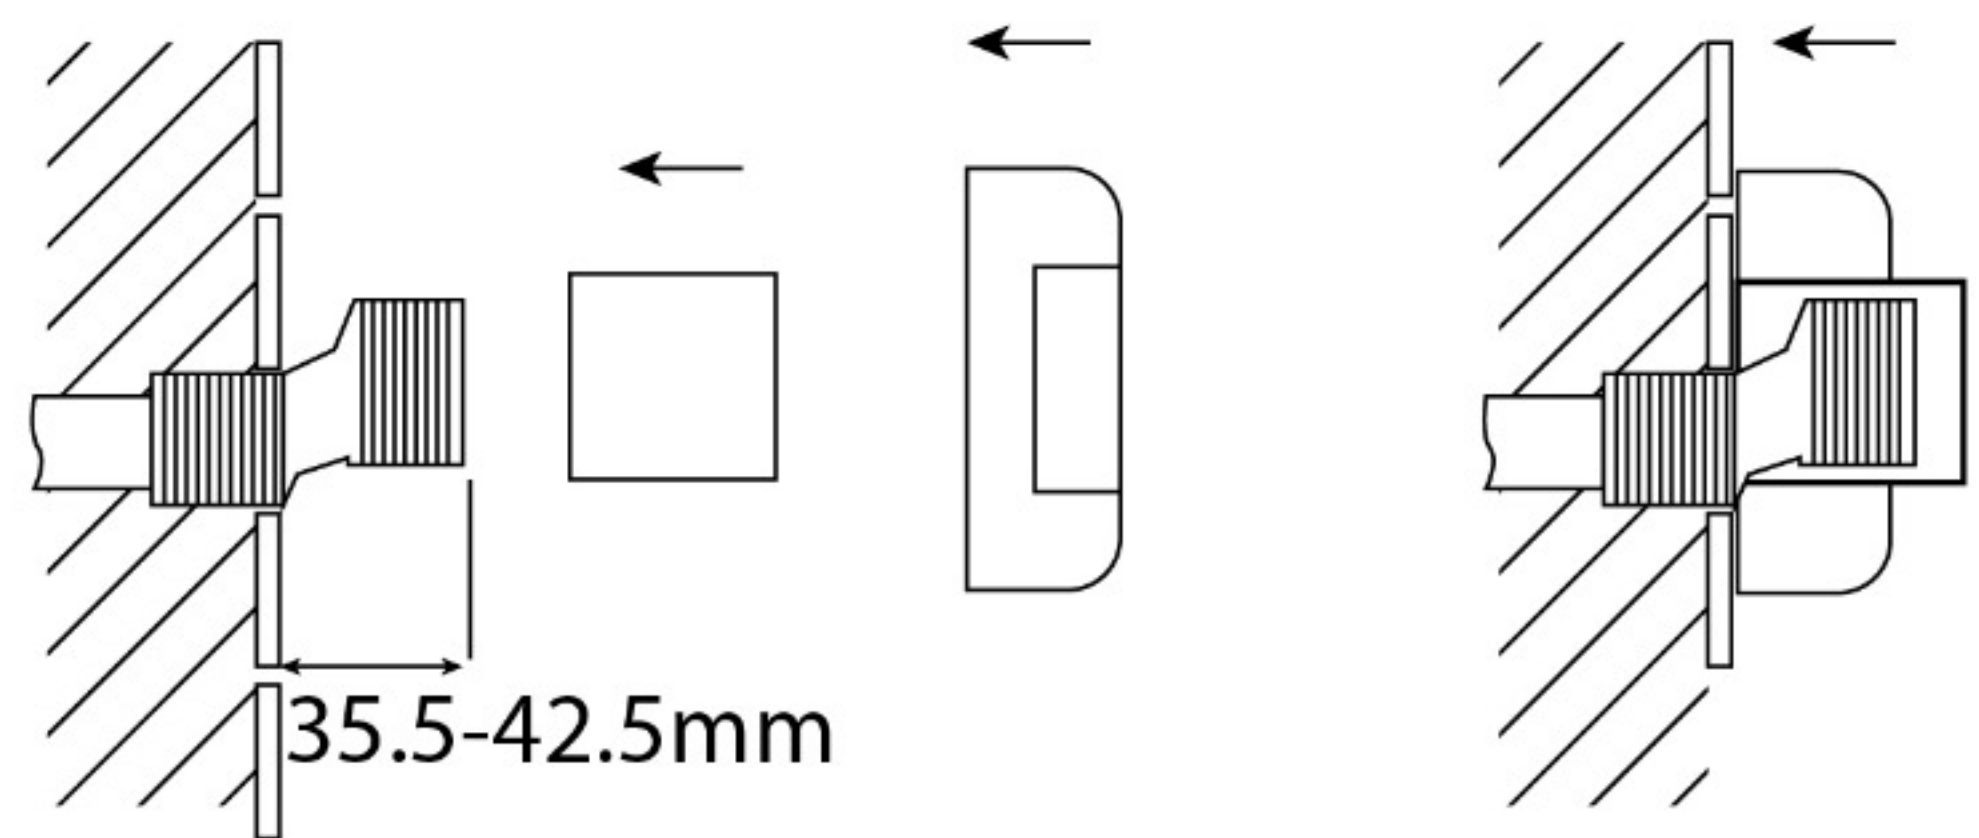

Figure 2.
- b. Assemble the escutcheon as shown in Figure 2 and ensure that it fits snug to the wall.